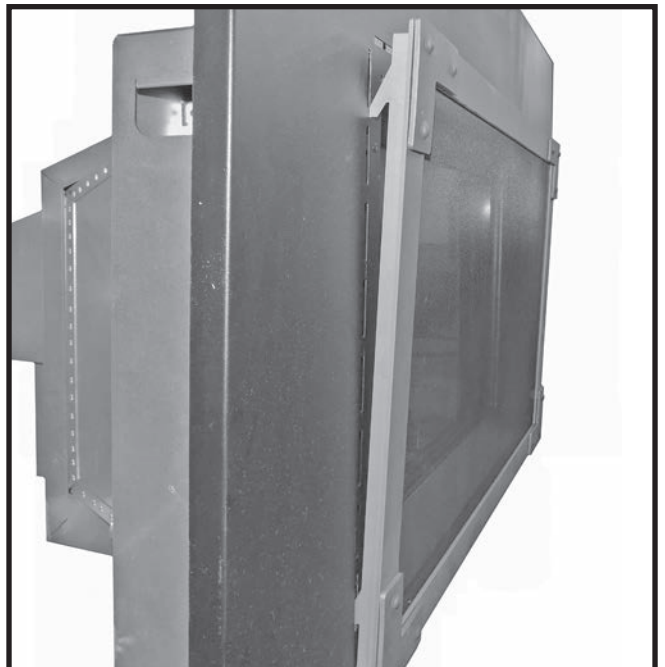

Figure 99: Mounting the decorative front.
3. Install the decorative front by inserting its four hooks into the corresponding slots on the backing plate (Figure 99).